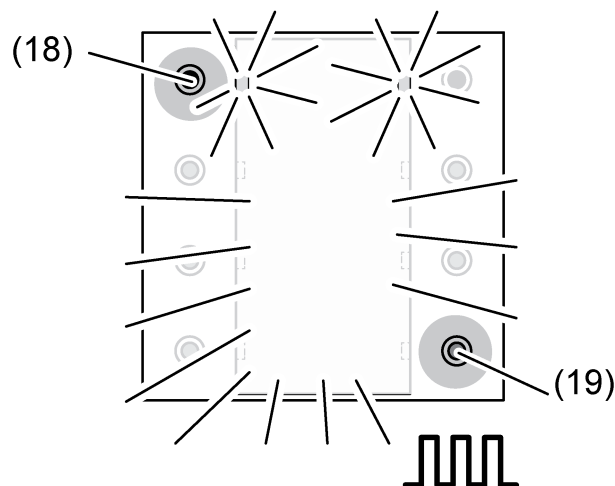

Figure 6: Actuation points for activating programming mode
- Activate Programming mode. Press the actuation point at the top left (18) on the continuous controller module and keep it depressed (figure 6). Then press the second actuation point at the lower right (19).